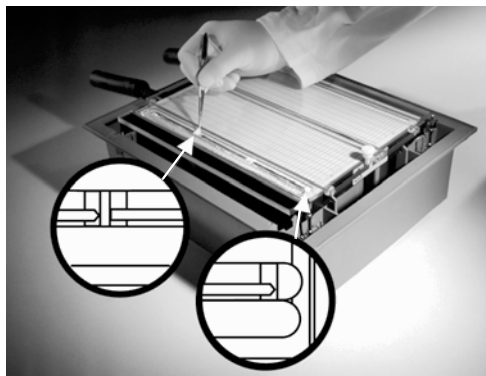

Fig 7 Inserting the sample application pieces at the end of each IPG strip
- 3 Use forceps to place one IEF sample application piece at the ends of each IPG strip underneath the plastic tab formed by the overhanging gel support film at each end of the IPG strip. Be sure that the application pieces touch the ends of the IPG strip (Fig 7).